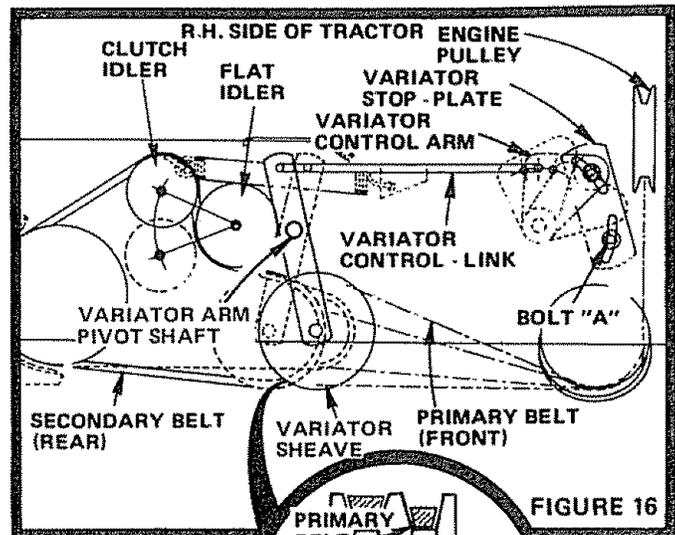

FIGURE 16
- With engine running, transmission in neutral, place Varidrive Control Lever in "FAST" position (Fig. 11) and check if Secondary Belt (Fig. 16 - Inset) rides flush with outside of Variator Sheave. (DO NOT PUSH DOWN ON CLUTCH PEDAL).
- Shut engine off and loosen Adjustment Nut on Bolt "A" for Variator Stop Plate (Fig. 16).
- Slowly move Varidrive Control Lever (Fig. 11) forward or backward until Secondary Belt is riding flush to 1/16" outside of Variator Sheave (Fig. 16 - Inset). NOTE: DO NOT PUSH DOWN ON CLUTCH PEDAL.
- Shut engine off holding Varidrive Control Lever in position as described in step d and tighten Adjustment Nut on Bolt "A" (Fig. 16).
- Start engine and move Varidrive Control Lever to "SLOW" position (Fig. 11). Primary Belt should ride flush to 1/16" out of Variator Sheave (Fig. 16 - Inset).